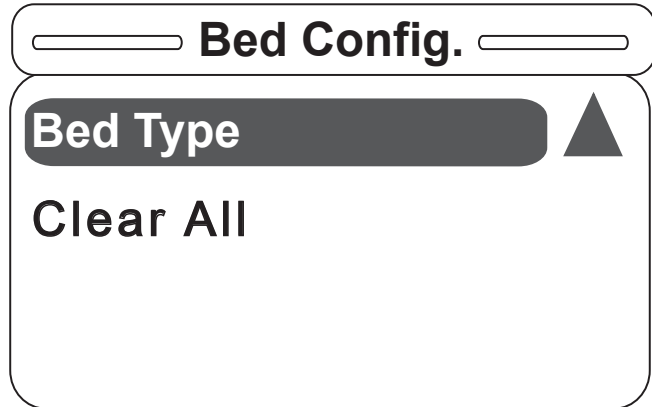

Figure S-1
1. On the first power up, the footboard screen will display Figure S-1. Only two items should be displayed. Select Bed Type and press “Enter” on the footboard panel.